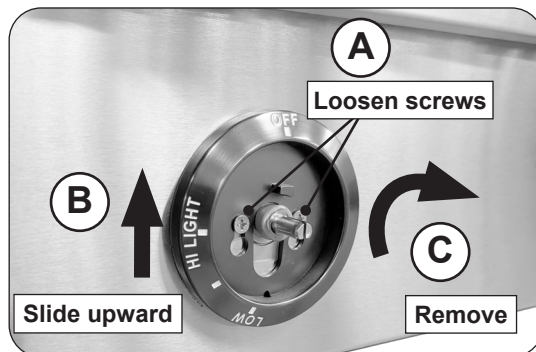

Fig. 37-2 Remove bezels
3. Using a Phillips-head screwdriver, loosen (do not fully remove) the fastener screws securing the control knob bezels (see Fig. 37-2, A).
4. Slide the bezels upward to free from the screws (Fig. 37-2, B), then pull outward to remove (Fig. 37-2, C).